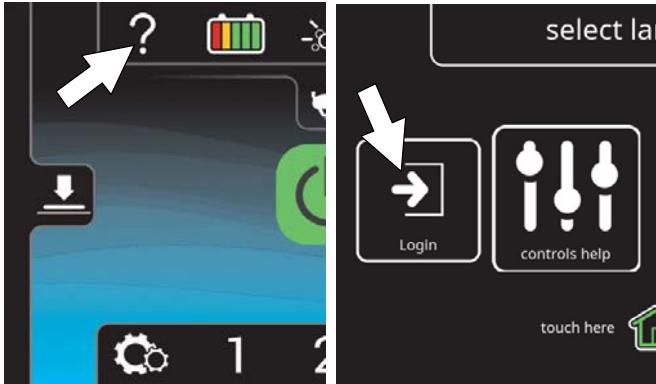

FIG. 172
2. Press the help button and log into the machine as supervisor mode (Figure 172). See *Entering the Supervisor Mode*.